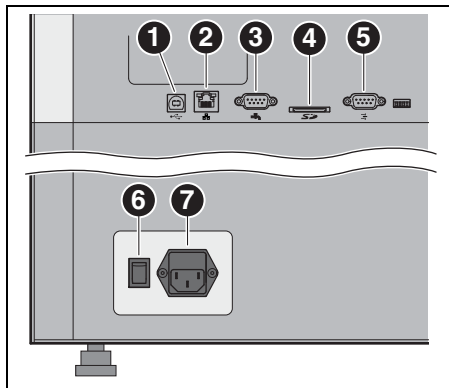
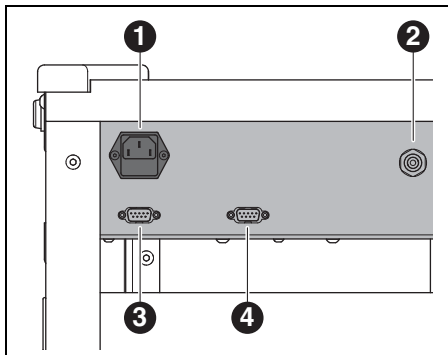

Fig. 12 Interfaces on the rear side of the Ceramill Motion 2
Fig. 13 Interfaces on the rear side of the Ceramill Coolstream
- ▷ Connect the control cable to the control interface for the Ceramill Coolstream on the rear side of the Ceramill Motion 2 ([3] in Fig. 12) and to the rear side of the Ceramill Coolstream ([3] in Fig. 13).
- ▷ Connect the control cable of the extraction system to the control interface for extraction on the rear side of the Ceramill Coolstream ([4] in Fig. 13).
- ▷ Connect the mains cable to the power supply connection ([1] in Fig. 13) of the Ceramill Coolstream as well as to a mains socket outlet.
- Connect the USB cable to the USB data port ([1] in Fig. 12) of the Ceramill Motion 2 and to a free USB port of the PC.